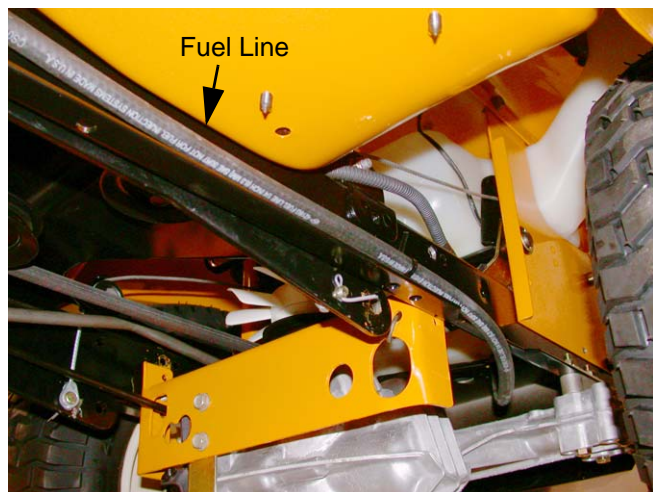

Figure 6.7
- 6.7. The 1500 series fuel line should be routed as shown. See Figure 6.7.